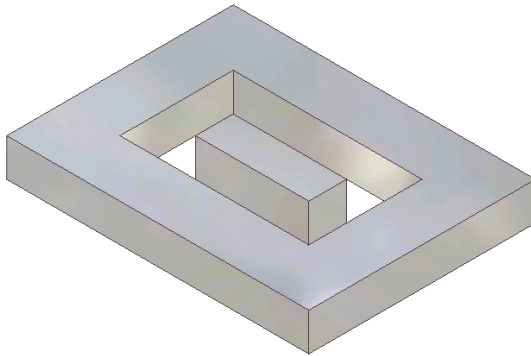
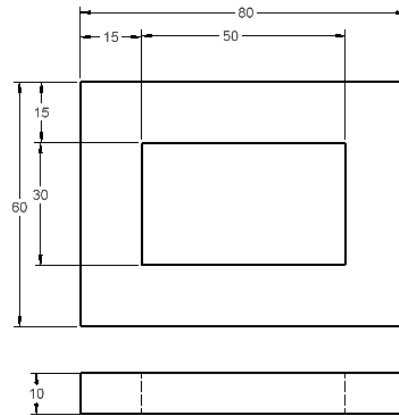
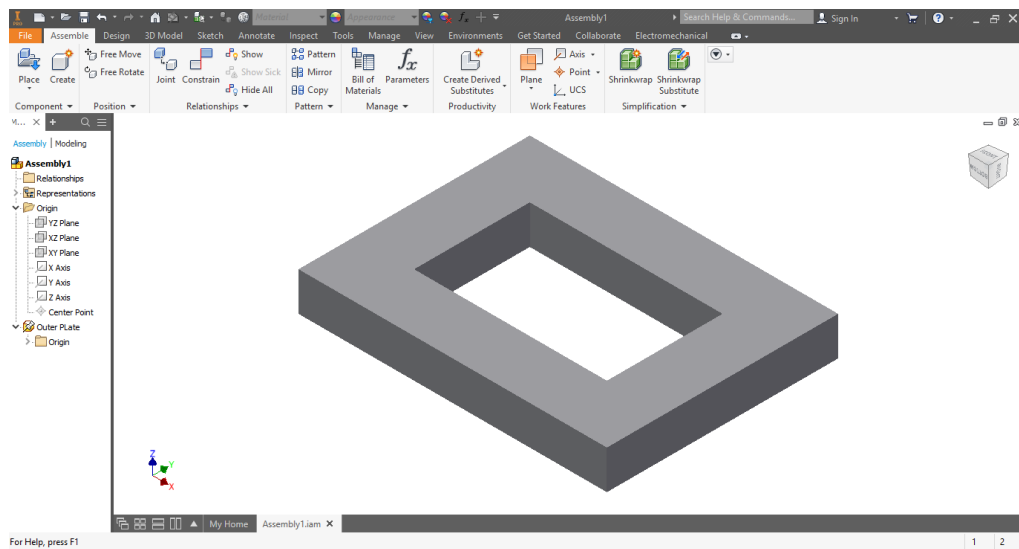

Figure 18-32 Assembly for Tutorial 2
Figure 18-33 Dimensions of the Outer Plate
Figure 18-34 Assembly after creating the Outer Plate
In this tutorial, you will create an assembly of the Outer Plate and the Inner Plate shown in Figure 18-32. The dimensions of the Outer Plate are shown in Figure 18-33. Create the Inner Plate as an adaptive part such that it automatically adjusts its size to fit inside the Outer Plate. Apply the **Mate** constraint with an offset of 10 mm to all the outer faces of the Inner Plate and the inner faces of the groove in the Outer Plate. After assembling the components, edit the inner cavity of the Outer Plate such that the Inner Plate again automatically adjusts its size.
- Start a new metric assembly file and then create the Outer Plate, refer to Figure 18-34.
4. Create the Outer Plate on the top plane. After creating the Outer Plate, return to the assembly file. The assembly file after creating the Outer Plate is shown in Figure 18-34. For dimensions, refer to Figure 18-33.